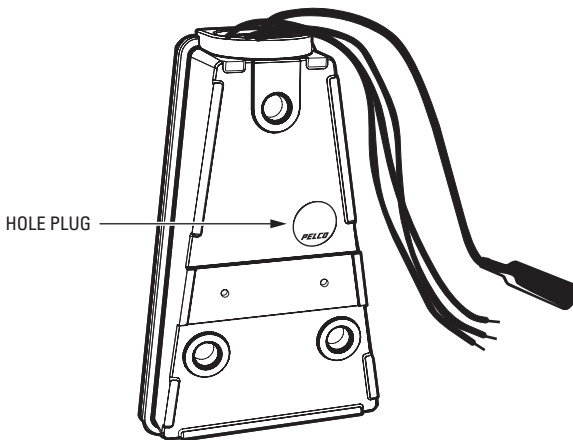

Figure 7. Installing the Hole Plug
4. Insert the hole plug that is supplied into the hole in the base of the Camclosure (refer to Figure 7).